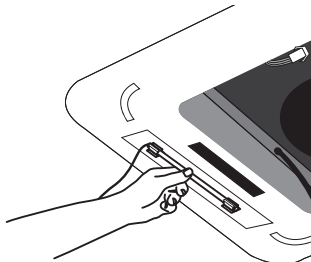

Figure 3.
- Peel off paper from the adhesive backing on the mounting brackets. Press the lamp with the lamp brackets firmly in place about 2" from blower wheel. (Figure 3.)